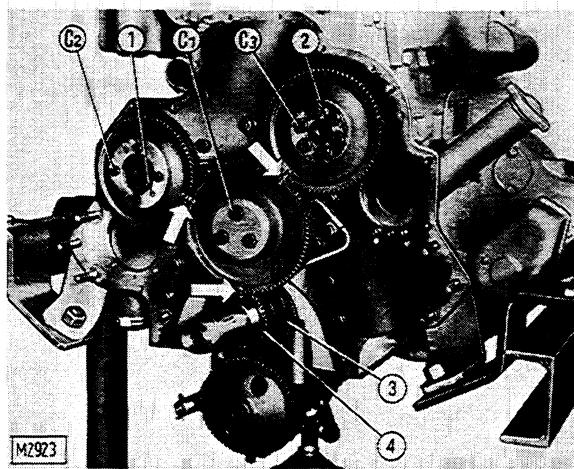

Fig. 14 - Gear train assembly.
- Remove timing gear housing cover (fig. 14).
- Remove capscrews (**C3**, fig. 14) and withdraw camshaft gear.
- Remove capscrews (**C1**, fig. 14) and withdraw idler gear.
Engine oil pump drive gear (3, fig. 14) and crankshaft gear (4, fig. 14):
- Install the gears to the associated shafts, ensuring that the timing marks are matched (1-1, 2-2, 3-3, fig. 14). Install the idler gear last, after gears (1 and 2) are properly meshed.
- Remove camshaft gear capscrews ( $C_3$ , fig. 14).